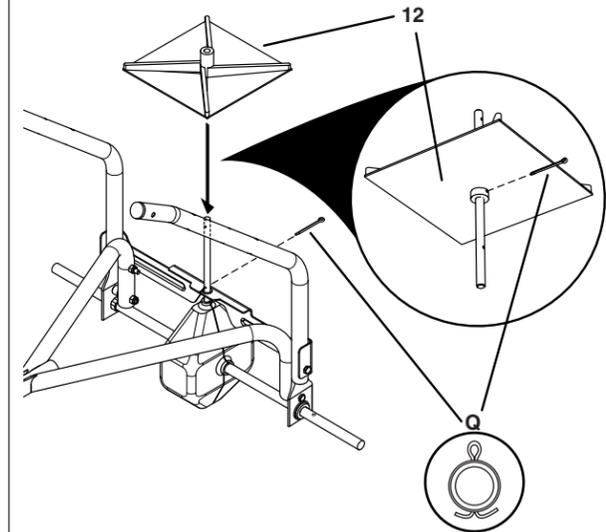

Figure 6
STEP 6: (SEE FIGURE 6)
- Slide the spreader impeller (12) onto the spreader shaft and secure it with a 1/8" x 1-1/2" cotter pin (Q).